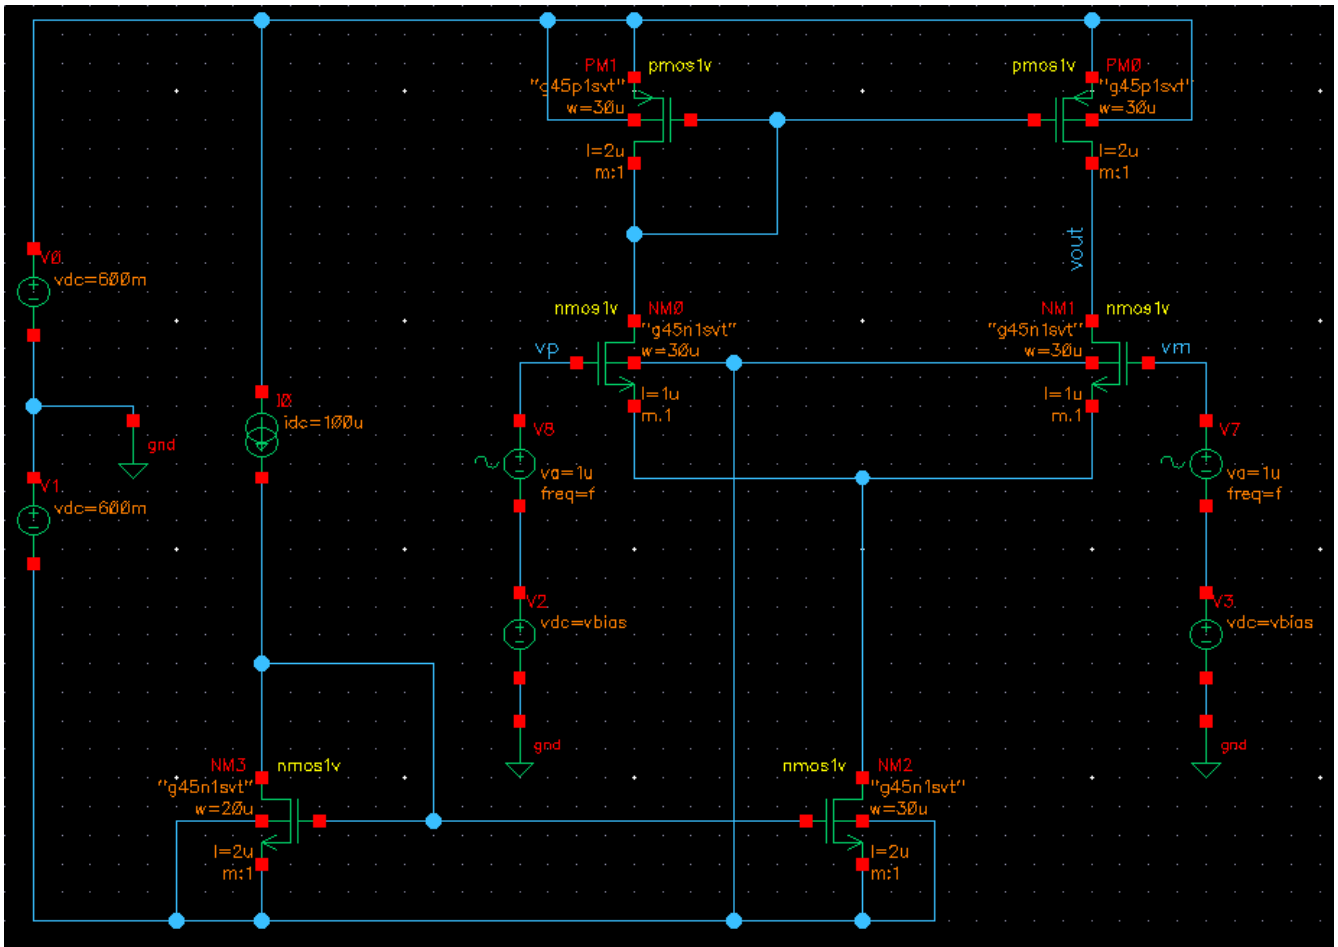

Fig. 1. The differential pair to be made in Cadence Virtuoso
- 1) Construct the circuit shown in Figure 1. The output of this circuit is at the drain of NM1. Note that MOSFETs NM0 and NM1 are the same size ($W=30\mu\text{m}$, $L=1\mu\text{m}$), MOSFETS NM2, PM0, and PM1 are the same size, ($W=30\mu\text{m}$, $L=2\mu\text{m}$), and MOSFET NM3 has dimensions of $W=20\mu\text{m}$, $L=2\mu\text{m}$. Also note that the maximum single MOSFET gate width is $10\mu\text{m}$ in this process, so you need to enter the "total width" in the component dialog window and then Cadence will figure out the number of gates to use. Lastly, use $I_{\text{ref}} = 100\mu\text{A}$.